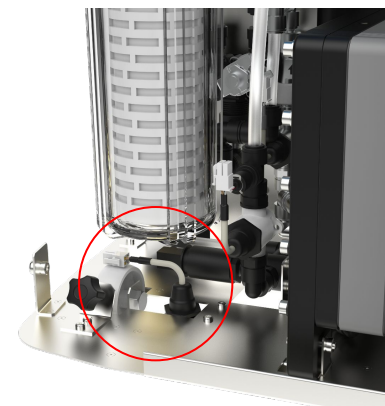

Fig 2
1. LOCATE the leak detector in the bottom left of the unit. (Fig 2)